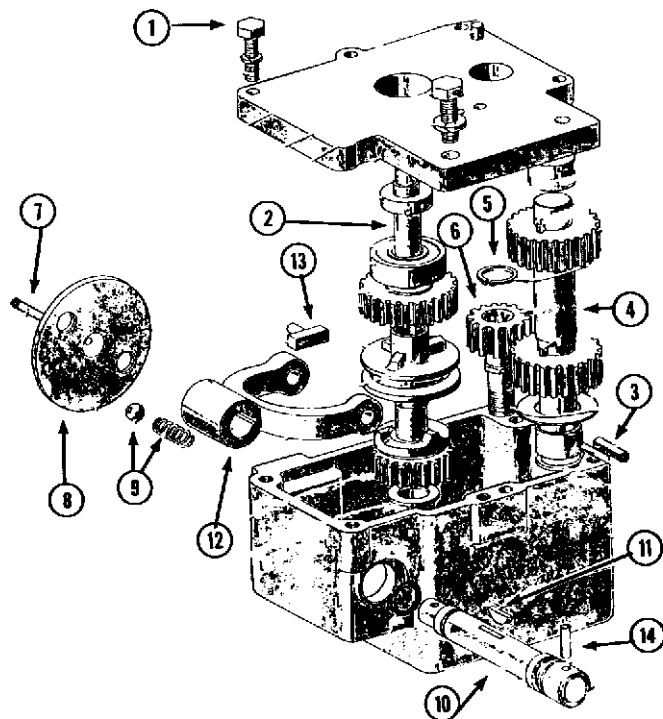

Fig. 12-5
- (1) Remove the six hex head bolts (1, Fig. 12-5).
- (2) Lift the cover off the gear box. (There are two dowels.)
- (3) Lift the input shaft (2, Fig. 12-5) out of the gear box.
- (4) Drive out the spirol pin (3, Fig. 12-5) from the output shaft.
- (5) Remove the output shaft assembly (4, Fig. 12-5).
- (6) Remove the retaining ring (5, Fig. 12-5) and remove the idler gear (6, Fig. 12-5).
- (7) Drive the spirol pin (7, Fig. 12-5) out of the detent plate (8, Fig. 12-5). Hold the detent plate while driving the pin to prevent the springs and balls (9, Fig. 12-5) from being lost.
- (8) Move the yoke shaft (10, Fig. 12-5) to the side, and remove the woodruff key (11, Fig. 12-5).
- (9) Withdraw the yoke shaft out of the gear box, while holding the yoke (12, Fig. 12-5).
- (1) Clean and inspect each gear, bearing, "O" ring, shoe and the gear box, replace if necessary.
- (2) Insert the yoke shaft (10, Fig. 12-5) into the yoke (12, Fig. 12-5) and the gear box.
- (3) Move the yoke shaft (10, Fig. 12-5) to one side and install the woodruff key (11, Fig. 12-5).
- (4) Install the two springs and two balls (9, Fig. 12-5).
- (5) Place the detent plate (8, Fig. 12-5) in place and hold while installing the spirol pin (7, Fig. 12-5).
- (6) Install the idler gear (6, Fig. 12-5) and secure with the retaining ring (5, Fig. 12-5).
- (7) Assemble the output shaft (4, Fig. 12-5).
- (8) Install the output shaft (4, Fig. 12-5).
- (9) Drive the spirol pin (3, Fig. 12-5) into the output shaft.
- (10) Install the shoes (13, Fig. 12-5) into the yoke.
- (11) Assemble the input shaft (2, Fig. 12-5).
- (12) Install the input shaft. The shoes on the yoke must be aligned with the groove in the clutch as the input shaft is installed.
- (13) Pack the gear box with grease. Refer to Lubrication Chart for the amount and type of grease.
- (14) Apply Permatex #2 to the gear box cover.
- (15) Install the cover and secure with the six bolts and washers (1, Fig. 12-5).